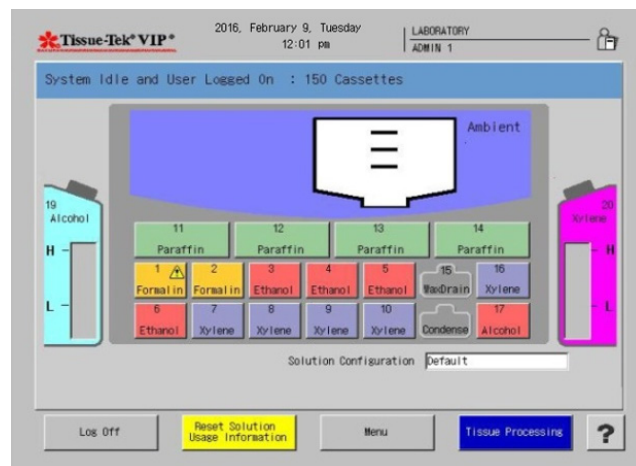

Figure 4-B
- If login is *successful*: The Process Monitor screen displays (Figure 4-B).
3. Touch the **Tissue Processing** button to access the Start Tissue Processing screen (Figure 4-C).